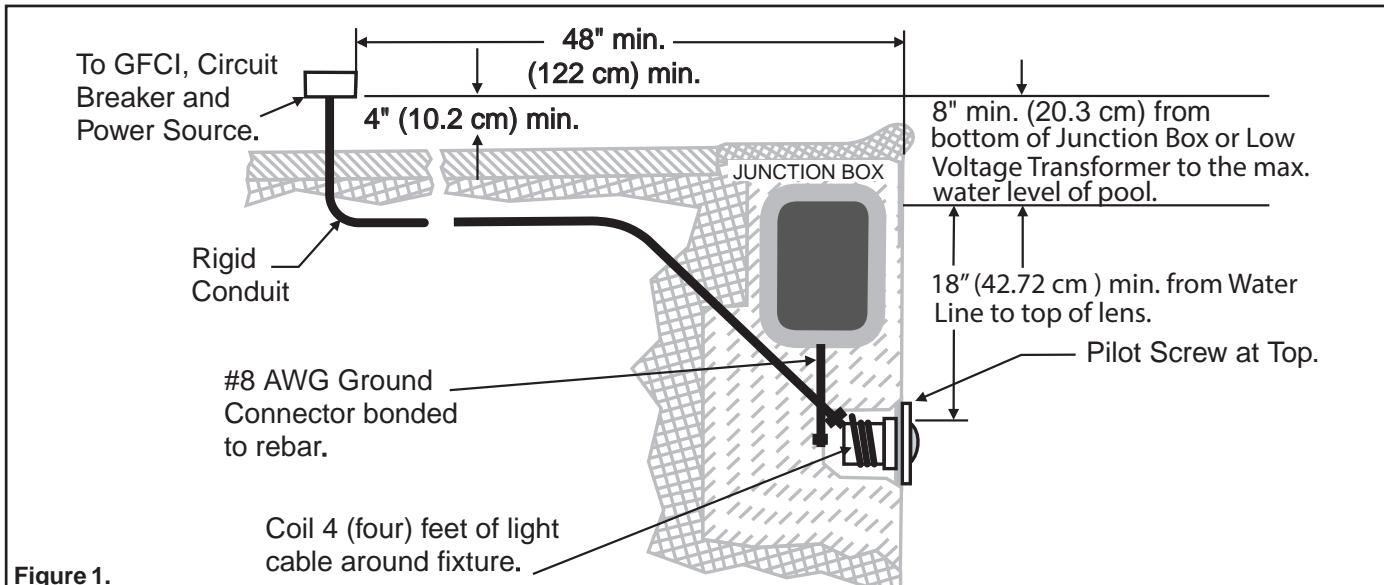

Figure 1.
A. THE FOLLOWING PREPARATORY STEPS MUST BE COMPLETED BY THE CERTIFIED ELECTRICIAN BEFORE LIGHT IS INSTALLED - SEE FIGURE 1.
- a. 120 VAC pool/spa lights must be connected to a Ground Fault Circuit Interrupter (GFCI), with an appropriately rated circuit breaker. See Figure 1. For Canada, 120 and 12 VAC lights must have a Ground Fault Circuit Interrupter (GFCI), and have an appropriately rated circuit breaker.
- b. The Junction Box (or 12 volt light models, the low voltage transformer) must be located at least 8 in (20.32 cm) above the maximum water level and at least 4 in (10.2 cm) above the ground level or pool deck whichever provides the greater elevation. The junction box shall be no less than 4 ft (1.22 m) from the inside wall of the pool, unless separated from the pool by a solid fence, wall or other permanent barrier. See Figure 1. The Junction Box should also be located at least 48 in (122 cm) minimum (3 m (10 ft.) Canada) from the edge of the pool, see Figure 1.
- d. Bond the niche-fixture housing to all other metallic items within 5 ft (1.53 m) of the pool, using a No. 8 AWG bond wire. The Bond connection is located at the rear of the niche, see Figure 1.
- e. The wet niche is properly installed so the top edge of the underwater light's lens is at least 18 in (45.7 cm) - (CANADA: 600 mm max to the centerline of the lens), below the surface of the water in the pool, see Figure 1. Also, the face ring PILOT SCREW must be at the 12 o'clock position.
- f. If non-metallic conduit is used, a No. 8 AWG bonding/grounding wire must be installed through the conduit from the Junction Box to the bonding/grounding lug inside the niche. Seal the wire/lug connection with a listed sealant to protect the connection from possible pool water corrosion. See Figure 1. Note: Use only Pentair wet niches to insure proper bonding and grounding connections.